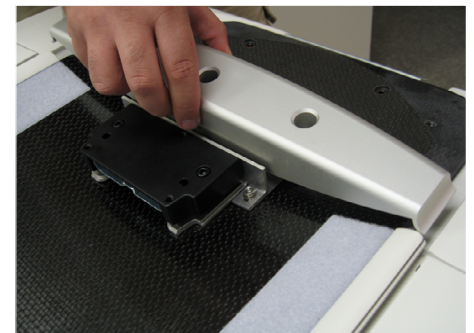

Fig. 56
7. Re-install the IV Pole Cross Bar, leaving the center screw lightly secured. Loosen the fasteners on CT Latch Assembly (Fig. 56).